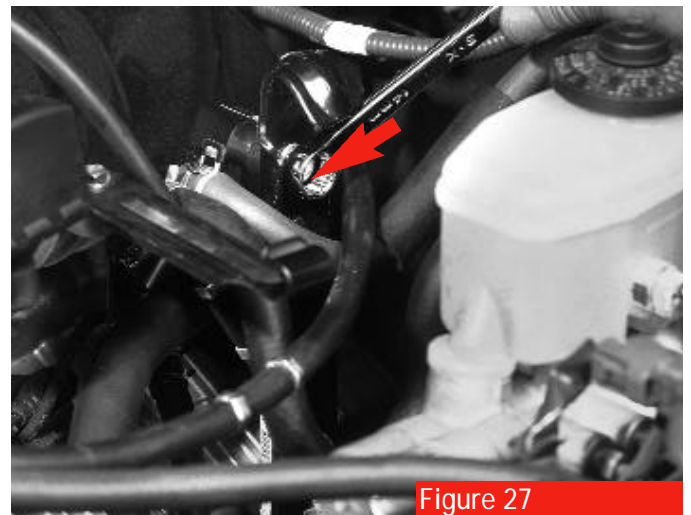

Figure 27
4. When the assembly sits flat on the engine, put the stock manifold brace (driver's side) bolt and TRD spacer in first **(see arrow, figure 27)** and then install the stock nuts on the studs at each end of the manifold and hand tighten.